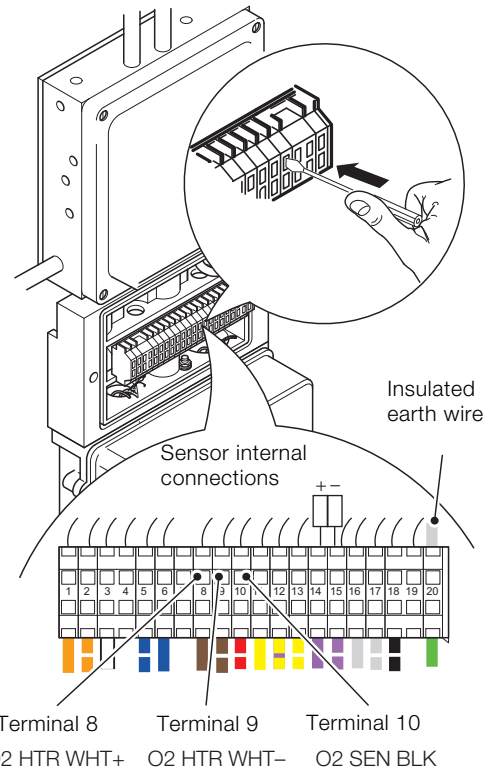

Fig. 6.2 Disconnecting the O₂ sensor
3. Proceed to Section Fig. 6.2, to disconnect the O₂ sensor at the sensor terminal block.
Referring to Fig. 6.2: